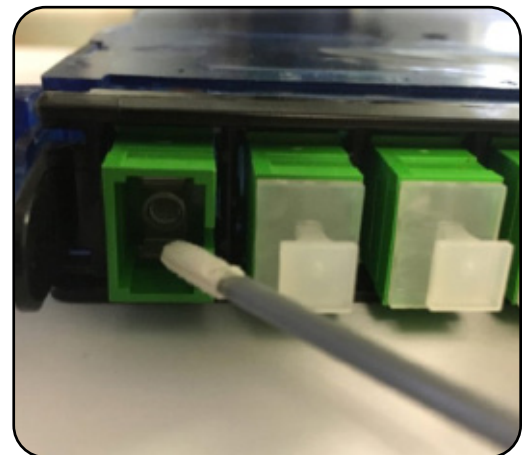

Figure 6
- Use additional swabs to clean inside the actual adapter. Moisten swab, like above, and insert through hole and remove while twisting. (**Figure 6**)